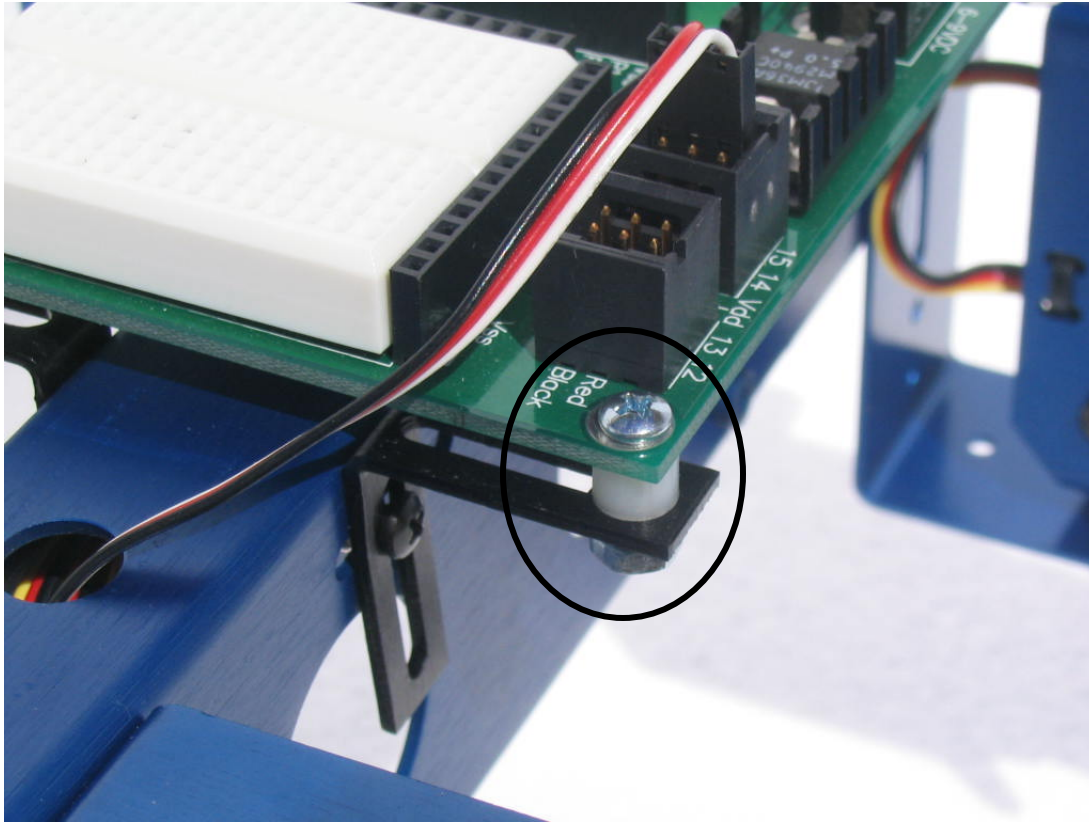

Figure 21
24. Using (4) ½” screws, ¼” nylon spacers, lock washers and nuts, install the Parallax BOE (full kit only) to the circuit board brackets as shown in figure 21. Do not tighten the screws until they are all installed and the Parallax BOE is mounted evenly on the circuit board holders.